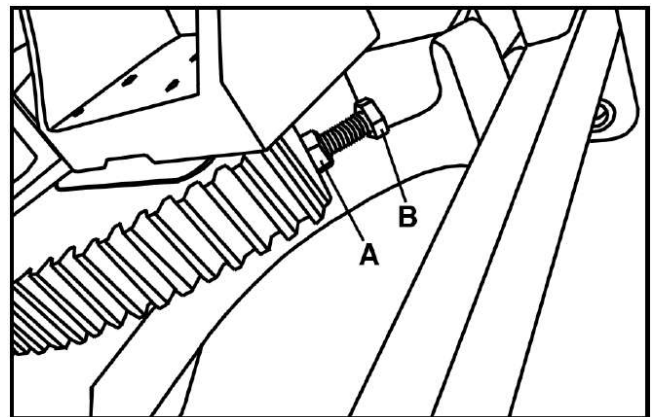

Fig.26: Adjust 90 degrees
4. If the blade is not at 90 degrees loosen lock nut (A) As Fig.26 and turn stop ring (B) in or out. The stop ring (B) should stop against the front trunnion bracket when the blade is at 90 degrees to the table. Recheck and adjust further if necessary. Retighten lock nut (A).